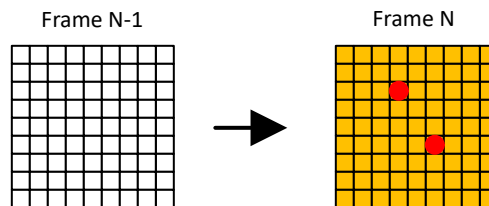

**Figure 8-7. On Demand Data Refresh - Mode 1**
**Mode 1:** 8-bit PWM data without VSYNC command. Data is sent out for display instantly after received. With Mode1, users can refresh the corresponding dots' data only instead of updating the whole SRAM. It is called 'on demand data refresh', which can save the total data volume effectively. As shown in Figure 8-7, the red LED dots can be refreshed after sending the corresponding data while the others kept the same with last frame.